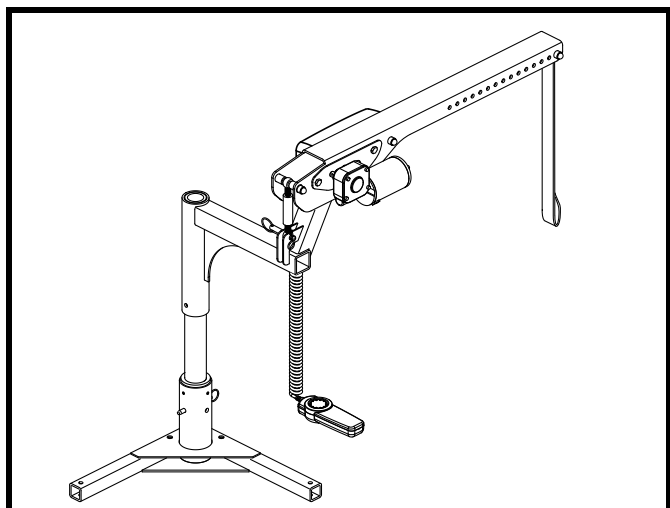

Figure 3A. Optional Offset Arm
**NOTE:** If your Pride Boom 250 is equipped with an optional offset arm, follow the instructions below to make adjustments. See figure 3A.